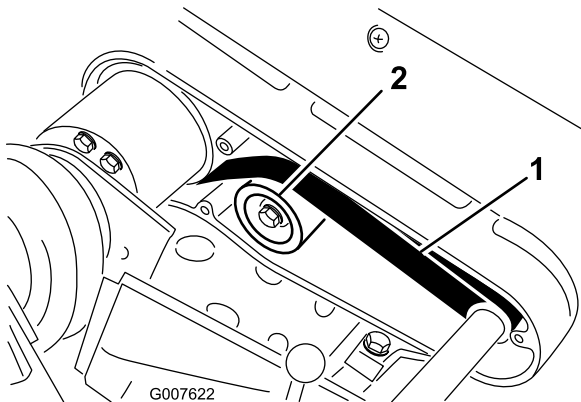

Figure 39
2. Check the tension by pressing the belt at mid span of the pulleys (Figure 39) with 22–26 N (5 to 6 lb) of force. The belt should deflect 6 mm (1/4 inch).
- A. Loosen the idler pulley mounting nut and pivot the idler pulley clockwise against the backside of the belt until the desired belt tension is attained (Figure 39).